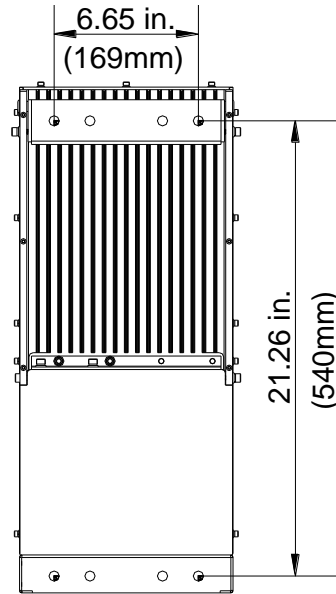
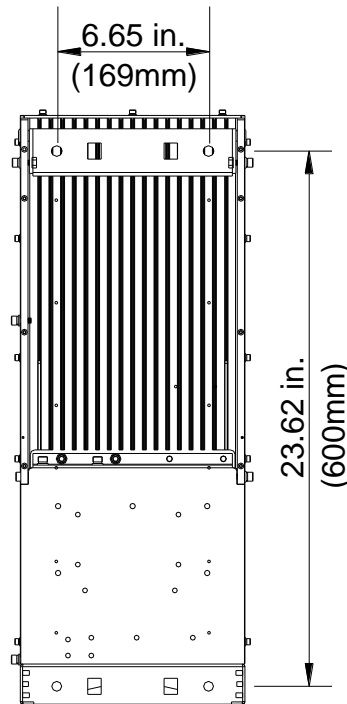

Figure 14: Wall Drilling Dimensions of LRU
Figure 15: Wall Drilling Dimensions of MRU
Step 2: Measure and mark the locations of 4 holes on the wall. Refer to Fig 14 for the wall drilling dimensions of LRU and Fig 15 for the wall drilling dimensions of MRU. Use a $\Phi 10$ drill bit for masonry bolts.